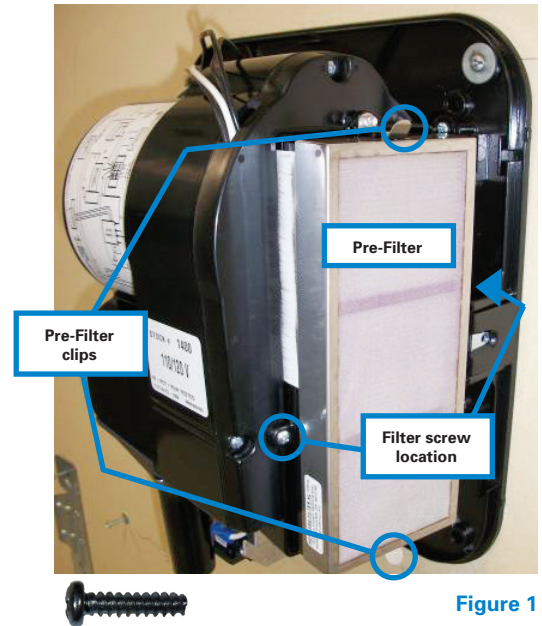

Figure 1
3. Remove Pre-Filter from HEPA Filter and save for reuse. See **Figure 1**.
4. Remove and save **two (2) screws** securing HEPA Filter to blower housing and remove Filter as shown. See **Figures 1 and 3**.
5. Take the HEPA Filter out of the clear sealed plastic wrap (**Figure 2**) and insert the HEPA Filter into the HEPA Filter Adapter. **DO NOT push on the white filter media.** This can damage the filter media. The side with the foam gasket around the perimeter of the HEPA Filter should enter into the HEPA Filter Adapter first. Fasten the HEPA Filter to the HEPA Filter Adapter with the **two (2) screws** which were removed and saved in Step 4. See **Figures 1 and 3**.